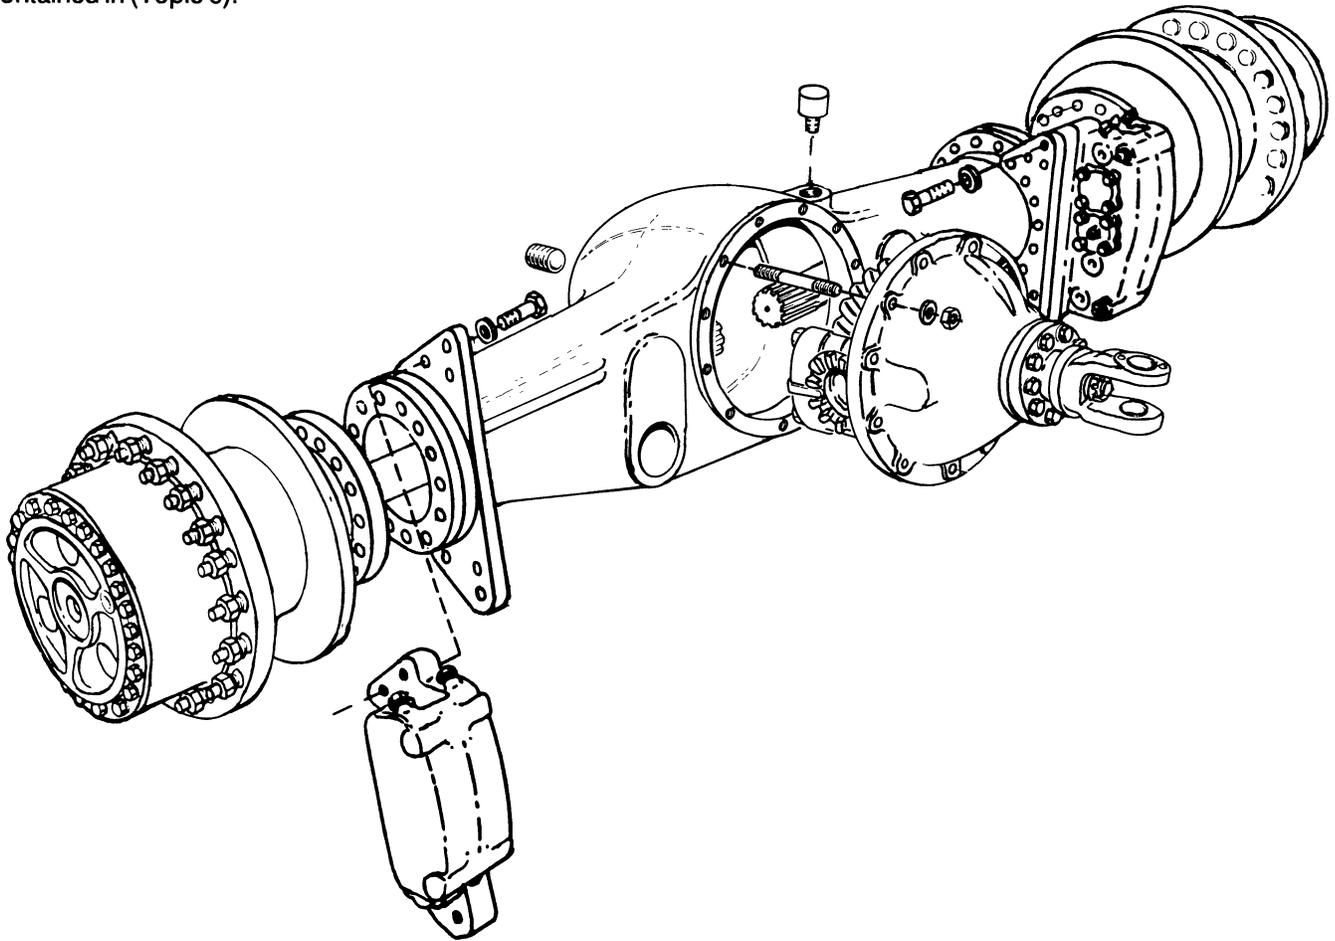
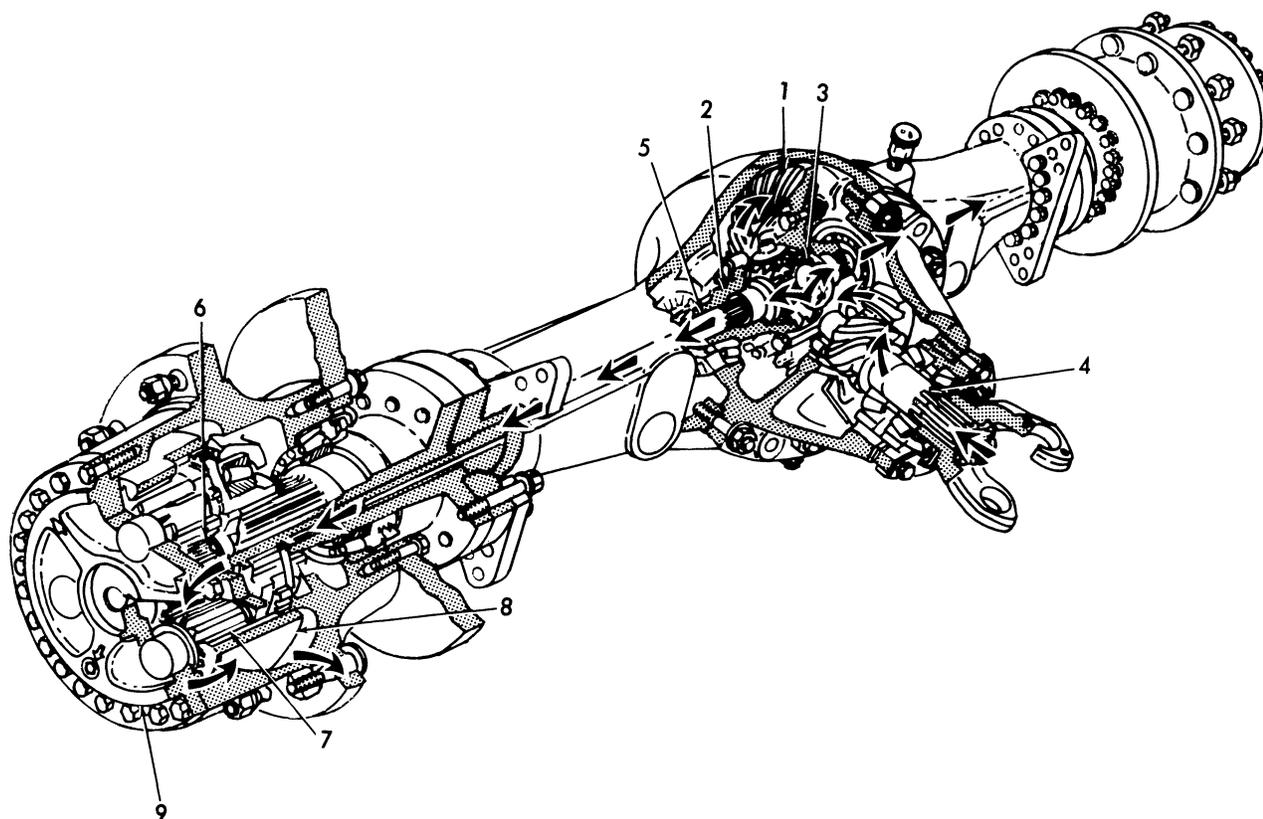

FIG.1 PLANETARY AXLE
FIG.2 PLANETARY AXLE (Cross-section)
The planetary axle, as illustrated in Fig.1, is comprised of these major groups of parts: hypoid bevel gear and pinion set, differential assembly, two axle shafts and two planetary gear sets. Also see Fig.2.
Follow the arrows in Fig.2 to trace the power distribution from the drive shafts to the wheels.
To better understand this brief description of the differential assembly, remember that the driving torque, goes from the bevel pinion (4), Fig.2, through the differential assembly (3) to the axle shafts (5). As the power passes through the differential, the differential assembly compensates for the DIFFERENT relative speeds of the wheels. That is, while the loader is turning or traveling over uneven terrain, it is necessary for one wheel to travel faster than the other wheel on the same axle. The differential assembly will allow one wheel to rotate faster than the other while delivering power to both wheels.